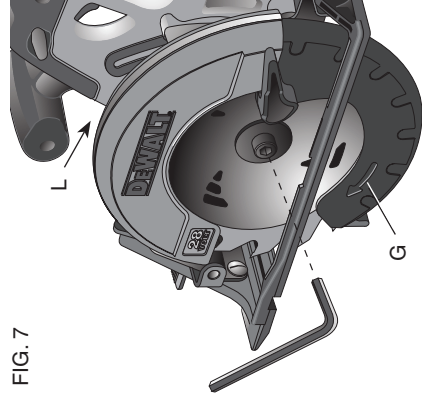

FIG. 7
5. Depress the blade lock (L) while turning the saw spindle with the blade wrench until the blade lock engages and the blade stops rotating (Fig. 7).
To Replace the Blade (Fig. 7):